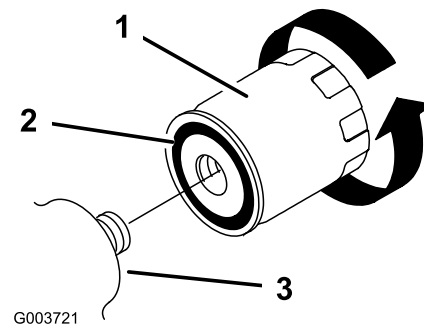

Figure 37
5. Remove the old filter (Figure 37) and wipe the surface of the filter adapter clean.
6. Apply a thin coat hydraulic fluid to the rubber gasket on the replacement filter (Figure 37).
7. Install the replacement hydraulic filter onto the filter adapter (Figure 37). Tighten it clockwise until the rubber gasket contacts the filter adapter, then tighten the filter an additional 1/2 turn.